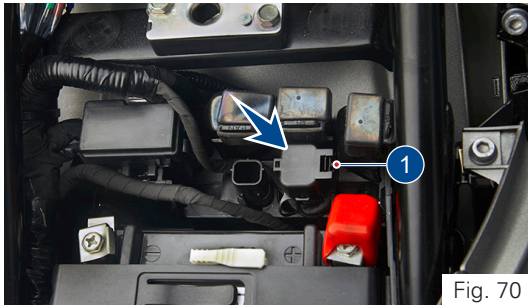

Fig. 70
- Gently pull out connector along with its cap from its location by releasing the lock (1) (ref. Fig. 70).